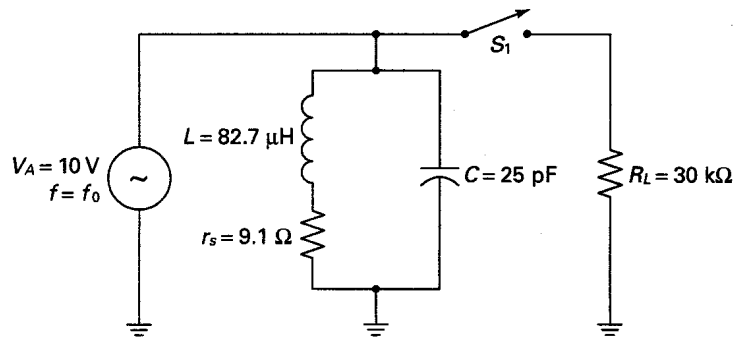

Fig. 1-20
**1.16** In Fig. 1-20, calculate  $f_0$ . Also, solve for the following at  $f_0$ :  $X_L$ ,  $X_C$ ,  $I_L$ ,  $I_C$ ,  $Q$ ,  $Z_{\text{tank}}$ , and  $I_T$ . ( $S_1$  is open as shown.)
**1.17** In Fig. 1-20, calculate the bandwidth when (a)  $S_1$  is open, (b)  $S_1$  is closed.
- 1.18** In Fig. 1-20, assume that  $S_1$  is open. If the value of  $L$  is doubled and  $C$  is halved, what happens to: (a)  $f_0$ ; (b)  $X_L$ ,  $Q$ , and  $Z_{\text{tank}}$ ; (c) BW.